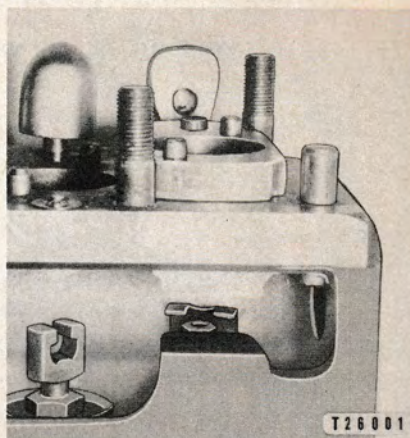

FIGURE 27
- b. The 6H9693 Spacer Assembly must be installed on the housing at the 10 mm position to correctly position the 12 mm pump assembly (Figure 27). Install the 12 mm pump plunger in the universal lifter adapter and proceed as directed below.